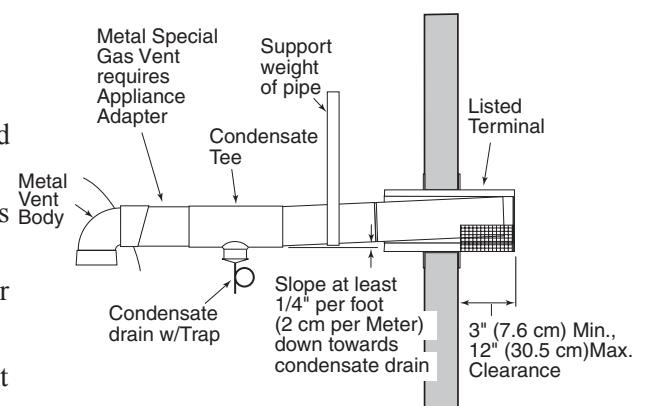

Figure 23.
- at least 3” and at most 12” out from the wall (see Figure 23), following the vent manufacturer’s instructions